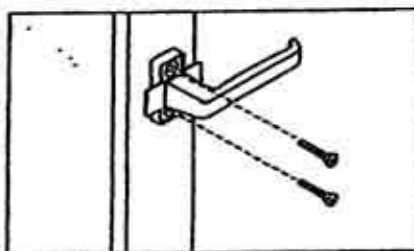

Figure 2-5. Where to install the mounting screws
- 2.4 Lock position: rotate the SA- FE-Handle to the horizontal position (Note: The handle should be pointing towards the hinge side of the sash). This gives you access to both of the screw holes. Insert the screws that came with the handle and tighten them. See Fig. 2-5. Go to Step 2.7.
- 2.6 Insert the screws that came with the handle and tighten them. See Fig. 2-5.